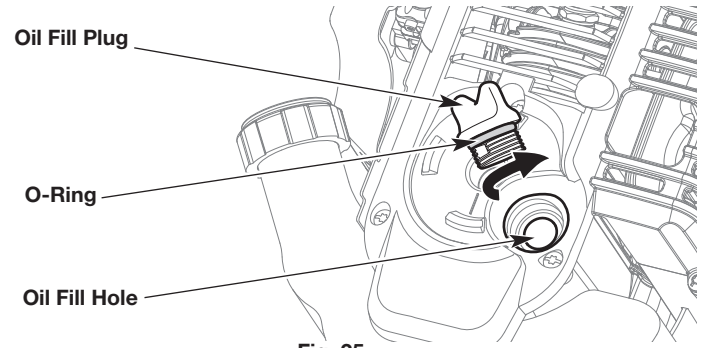

Fig. 25
3. Clean the area around the oil fill plug (Fig. 25) to prevent debris from entering the oil fill hole (Fig. 25).
7. Make sure the O-ring is in place on the oil fill plug (Fig. 25).
1. Clean the area around the oil fill plug (Fig. 25) to prevent debris from entering the oil fill hole.
5. Pour 3.04 fl.oz. (90 ml) of SAE 30 oil into the oil fill hole (Fig. 25).